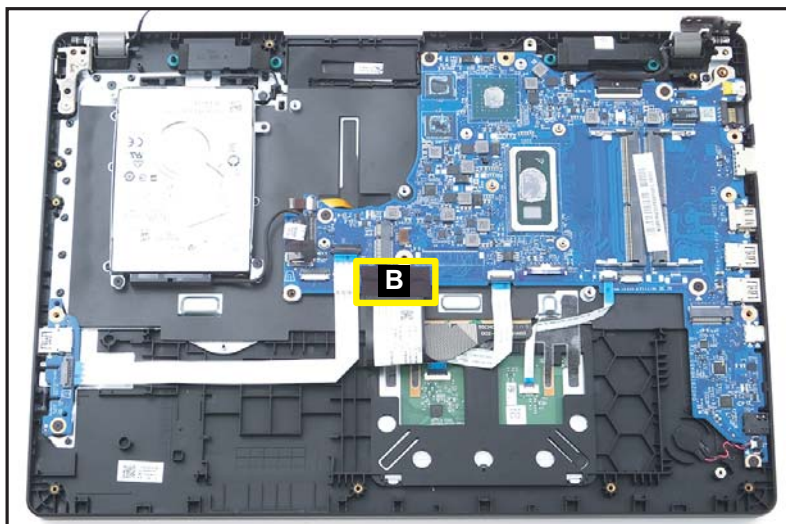

Figure 1-38. Mainboard Removal
4. Peel off and remove the tape (B) securing the keyboard FPC (Figure 1-38).